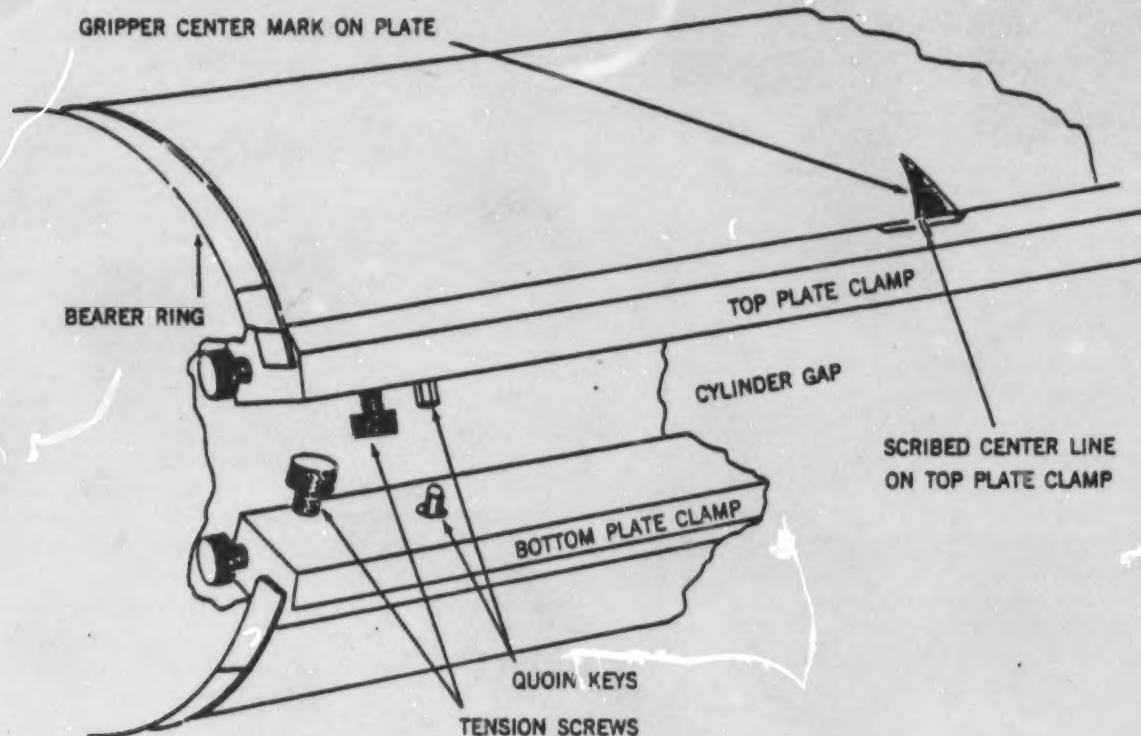
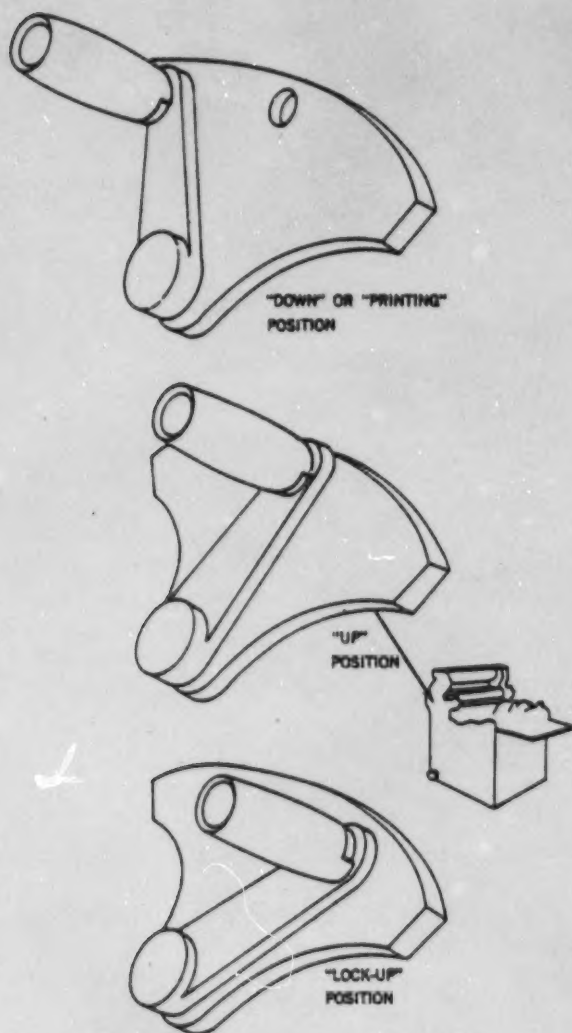

Figure 8-27. Mounting plate on plate cylinder.
Figure 8-28. Ink motion throw-off handle on ATF Model DP.
d. *Preparing and Mounting Plate* (fig. 8-27)
(1) Before working on the plate, remove the cylinder guard. This guard, of course, is never removed until the operator has assured himself that the safe switches are turned to "safe," disconnecting all power from the press. As long as this guard remains off, the cylinders can be moved only by turning the flywheel manually. Power must *never* be used while mounting a plate.
(2) The plate must be "miked" before mounting. Check several points, not near the clamp edges, and take an average. Select enough paper packing to total .016 inch when added to the thickness of the plate. For instance, one brand of commercial, presensitized plate averages .006 inch thick which means that approximately .010 inch of paper packing must be inserted under this type of plate.
(3) Loosen the plate clamps by turning the quoin keys counterclockwise and back off the tension screws. This permits a maximum amount of adjustment when subsequently tightening the plate around the cylinder.
(4) With the image side of the plate out, insert the gripper edge of the plate as far as possible into the top plate clamp. If the plate is not inserted into the clamp the full distance, it is apt to go around the cylinder crooked and pull out of the clamp when it is being tightened. Center the plate in the top plate clamp by lining up the gripper center mark on the plate with the scribed centerline on the plate clamp. If the top plate clamp does not have a scribed center line, center the plate in the clamp by alining the right (operator's side) edge of the plate with the right edge of the cylinder surface. When the plate is centered, tighten the top clamp. Make certain that the clamp is flush with the top of the cylinder gap. If the top plate clamp is not perfectly alined with the gap, the plate will not tighten evenly around the cylinder.
(5) In order to position the plate around the cylinder properly, the impression must be "on". To do this, throw the ink motion throw-off handle into its "lockup" position, as shown in figure 8-28. The handle must be pulled toward the operator's
(6) Next, turn the press forward by hand until the plate starts between its own cylinder and the blanket cylinder. Place the correct amount of packing behind the plate, and again turn the press forward by hand until the plate covers the plate cylinder.
(7) Insert the trailing edge of the plate into the bottom plate clamp, and tighten the clamp.
(8) Take the slack out of the plate by tightening the tension screws (fig. 8-27). Do not over-tighten these screws or the plate will be stretched and torn or pulled out of the plate clamps. When a crease begins to appear in the plate at the points where it passes over the cylinder gap, tap the plate gently with a wrench. If the plate is tightened sufficiently, the resulting sound will seem to come from a solid object.
(9) Push either of the manual impression trips, remove the strip of paper from under the automatic trip, and turn the press forward one revolution to take the impression "off." Tear away any excess packing extending past the plate.
(10) When removing the plate, free the tail edge from the bottom clamp first, and turn the press backward by hand until the plate is off the cylinder. Then loosen the plate clamps on the gripper edge and remove the plate from the press.
(11) Flatten the creases in the plate with a plate roller and either place the plate in storage or send it to be grained.
(12) After work on the blanket and plate has been completed, replace the cylinder guard.